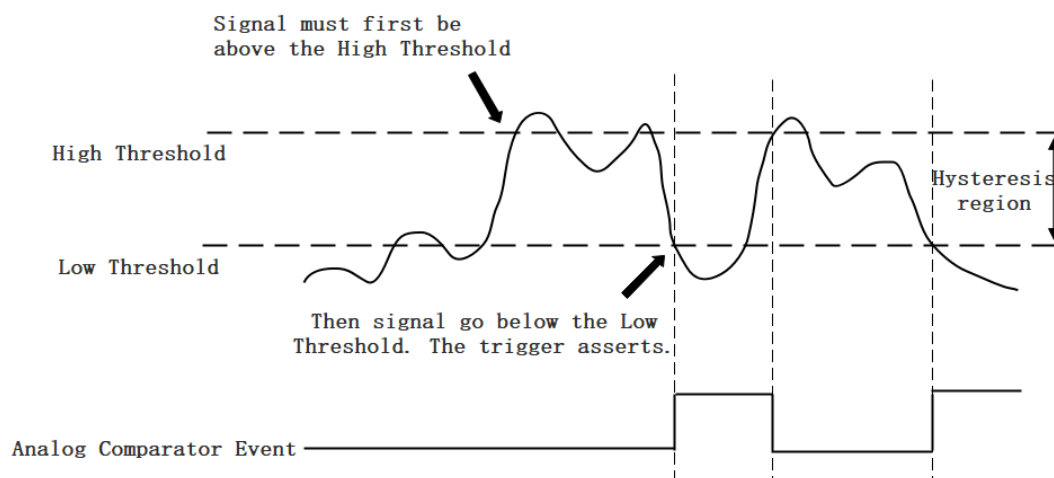

Figure 8 Hysteresis with Falling Slope Trigger
**Hysteresis with Falling Slope Trigger:** The Hysteresis comparator output is high when the signal must first be above the high threshold, then goes below the low threshold. The output will change to low when the signal goes above the high threshold as shown in Figure 8.